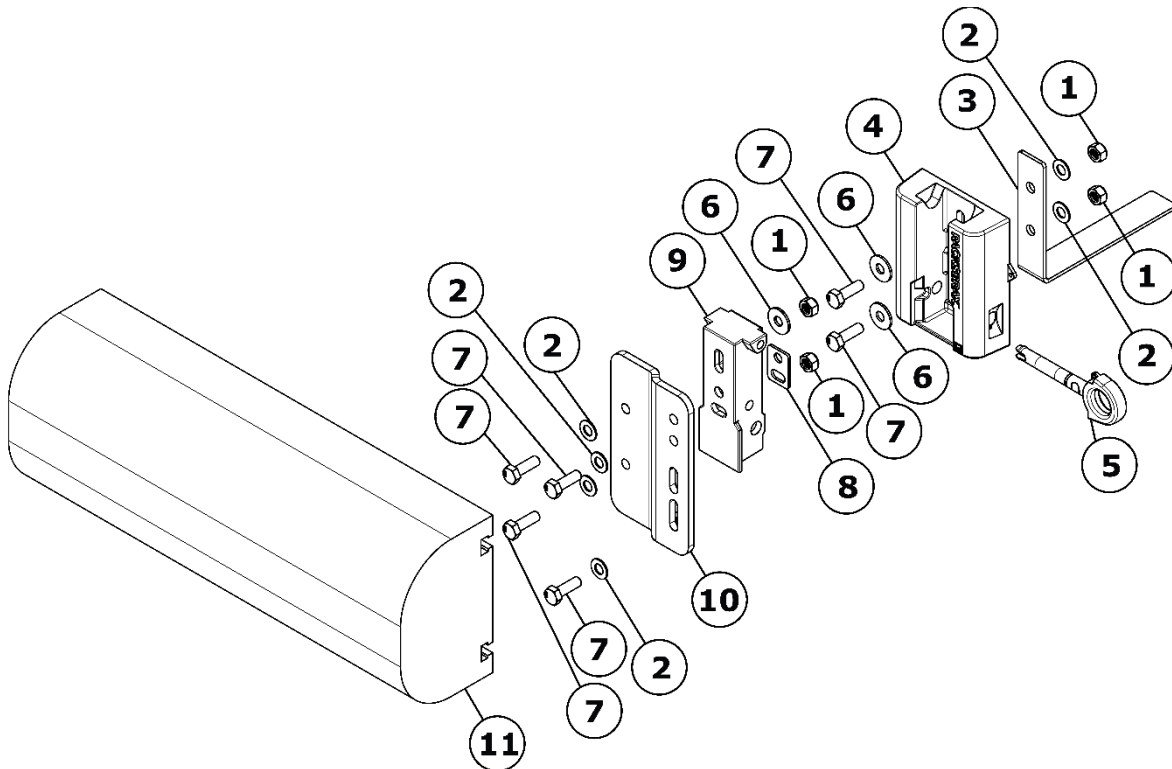

Figure 1 HD Hitch with HD Awning Adaptor Plates, exploded view
(see Figure 1 over page)
- ** Use these nuts in addition to the nuts supplied with the HD Hitch (some 17mm x 1.2mm washers supplied with the HD Hitch also need to be used with the HD Awning Adaptor Plate-see Figure1)